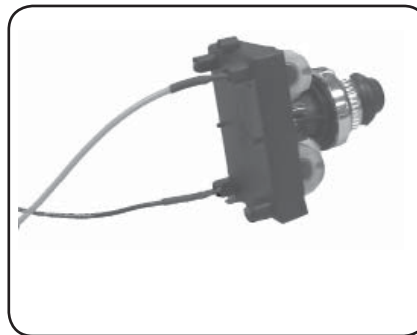

Fig. 16-2 Spark generator
8. If you removed the top plate re-install the ignition wires. Your barbecue may have either two (2) or four (4) wires depending on the exact model. Pull the drip tray out. Lean the face forward and plug the wires into the terminals on the spark generator (Fig. 16-2). The wires can be plugged into any terminal.